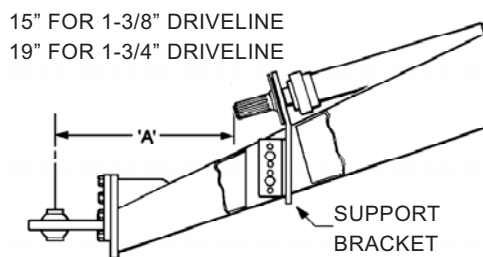

Figure 13 - Driveline
5. The PTO shaft bearing mount angles, ANG0027391, are designed to be used with either size ($1 \frac{3}{8}"$ or $1 \frac{3}{4}"$) drivelines. Use quantity 4 of $1/2 \times 1 \frac{1}{2}$ bolts, lock washers and nuts, torque nuts to 120 ft. lbs. to secure angles to frame. The 3" flange angle bolts to the baler tongue side plates while the $2 \frac{1}{2}"$ leg mounts the carrier bearing support bracket, MNT0028883. With the 3" flange towards the front of the baler, dimension 'A' is 19", with angle flanges towards rear of baler, dimension 'A' is 15" (see Figure 13). (see parts manual page 42 for parts description).